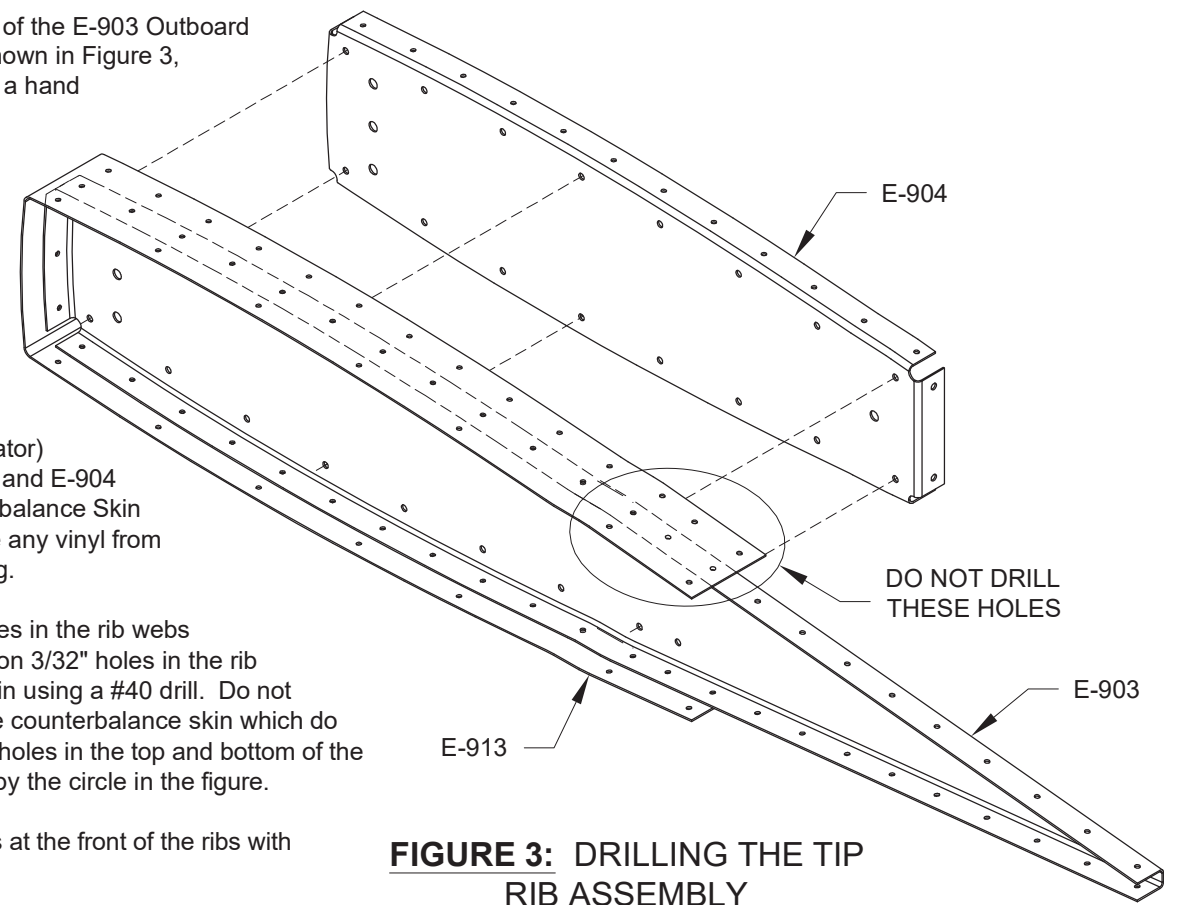

FIGURE 3: DRILLING THE TIP RIB ASSEMBLY
Step 4: Make sure the flanges of the E-903 Outboard and E-904 Inboard Tip Ribs, shown in Figure 3, are bent 90°. Adjust them with a hand seamer if necessary.
Step 6: Make two Tip Rib Assemblies (one for each elevator) by clecoing together the E-903 and E-904 Tip ribs and the E-913 Counterbalance Skin as shown in Figure 3. Remove any vinyl from mating surfaces before clecoing.